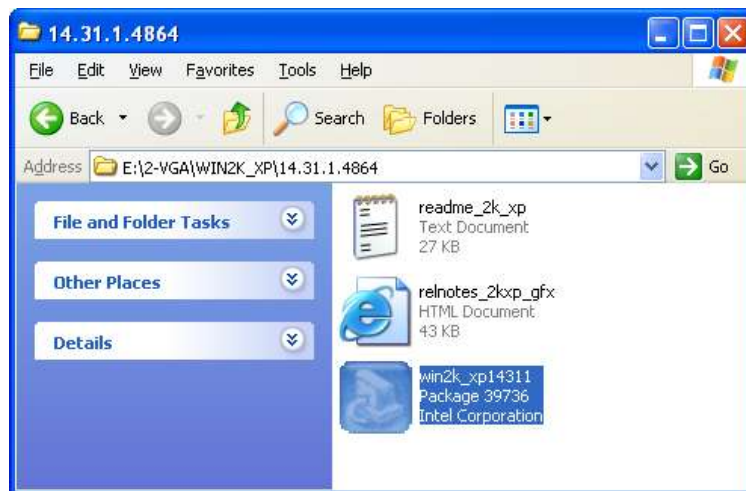

Figure 7-8: VGA Driver
Step 3: A new window appears (Figure 7-8).